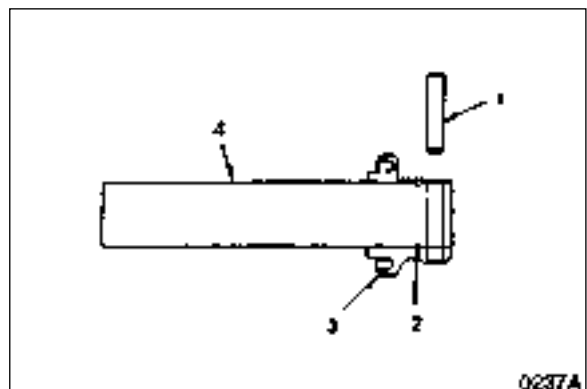

Figure 36
3. Align collar (3, Figure 36) and axle (4) pin holes and pin (1) the collar.